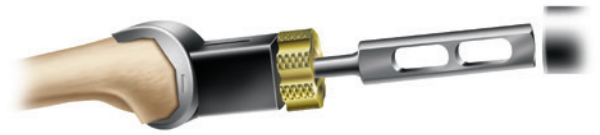

Figure 25
- 1 Flex the knee to 90° and insert the femoral trial using the femoral trial impactor (Figure 25).